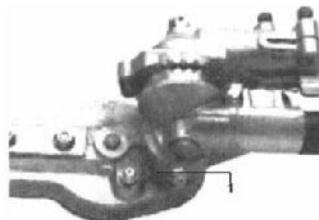

Fig.HT16
- c. Side the gearcase out of the tube. Using a grease gun, pump lithium-base grease (about 10 grams) into the grease fitting on the gearcase until you see old grease being purged from the gearcase (Fig.HT16). Purged grease will be visible in the outer tube cavity. Clean up the excess grease and then reassemble the gear case onto the outer tube.